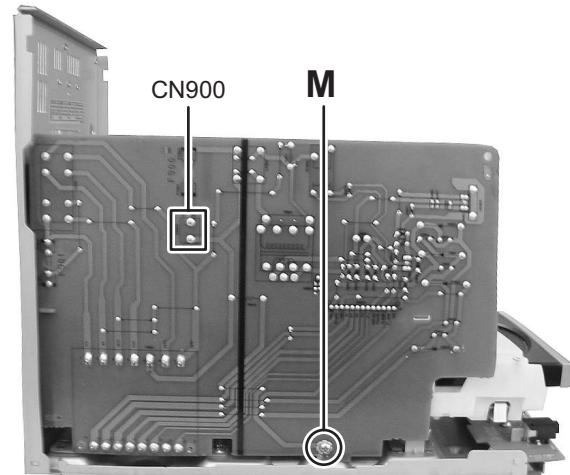

Fig.10
- (2) Disconnect the connector wire from the connector **CN900** of the trans board. (See Fig.10)
- (3) Remove the one screw **M** attaching the trans board. (See Fig.10)